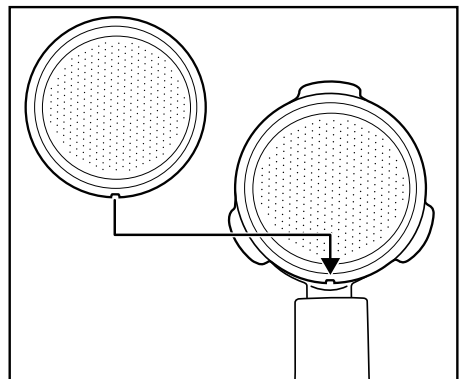

Figure 2
- 1) Fill the water tank ⑨ with tap water.
- 2) Place either the large ⑮ or the small espresso sieve ②① in the sieve holder ⑮:
- Make sure that the small indentation on the large ⑮ or small espresso sieve ②① is located above the indentation on the sieve holder ⑮ when inserted (Figure 2).